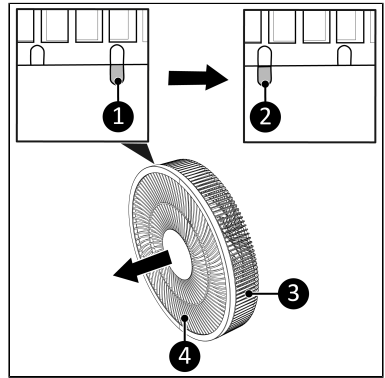

Figure 28.
8. Turn the front grille (Figure 28, pos. 4) counterclockwise until the marking on the front grille (Figure 28, pos. 1) aligns with the left marking on the rear grille (Figure 28, pos. 2).
9. Remove the front grille (Figure 28, pos. 4) from the rear grille (Figure 28, pos. 3).